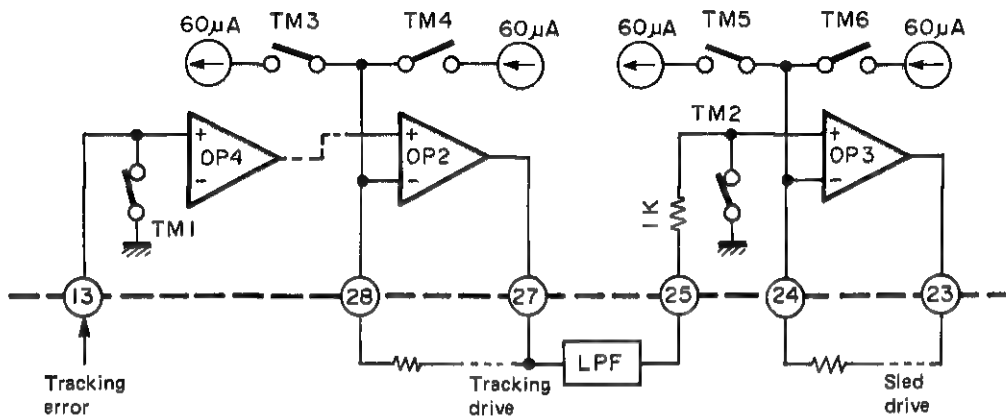
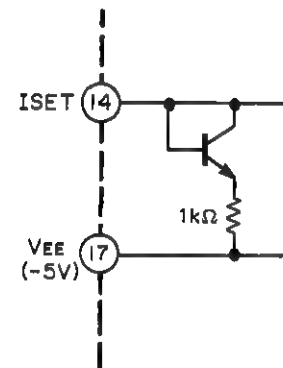

Fig. 6-15 TM1 ~ TM7
Fig. 6-16 ISET terminal
The circuit composition is shown in Fig. 6-15. TM1, TM2 make servo ON/OFF, and TM3~TM6 produce jump pulse and fast feed pulse. See truth value table for details.
Figure 60μA is observed in Fig. 6-15. This value is of the case where 240μA is fed to ISET ⑭ terminal like SF1. The circuit of ⑭ terminal is as shown in Fig. 6-16. Therefore, the potential is around (-)VEE + 0.9V.